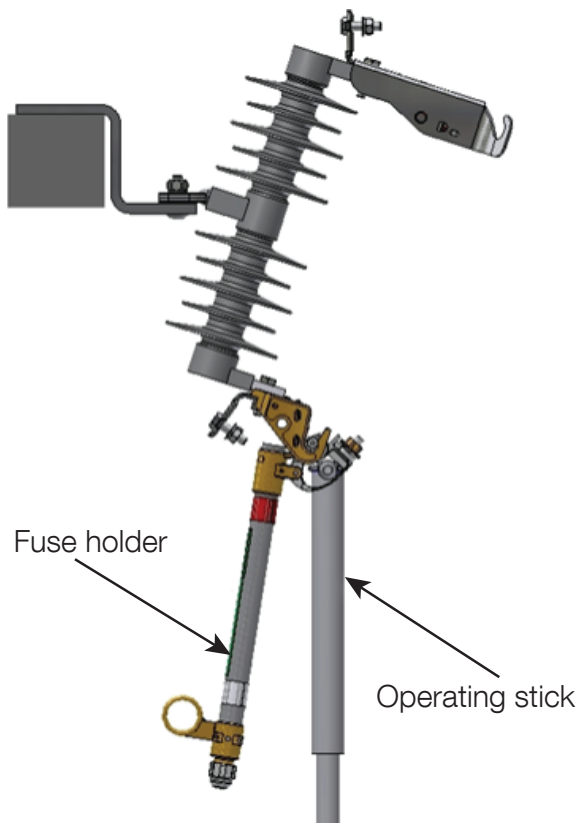

Figure 7A- Installation of fuse tube
2. Guide the fuse tube into the fuse cutout hinge as shown in Figure 7A and disengage the hookstick (See Fig. 7A).